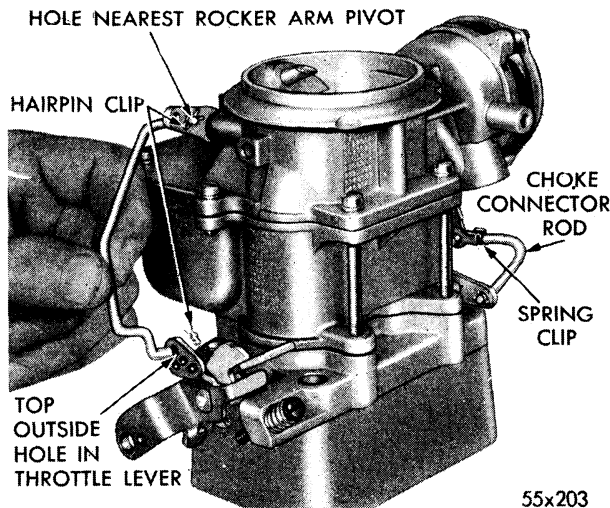
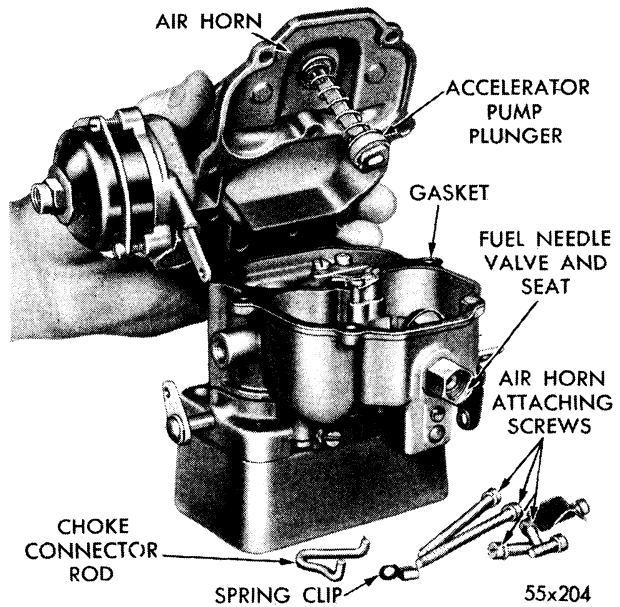

Fig. 4—Removal or Installing Accelerator Pump Rod
Fig. 5—Removing or Installing Air Horn
- (1) Remove the hairpin clips that retain the accelerator pump operating rod, as shown in Figure 4.
- (2) Remove the dashpot (if so equipped).
- (3) Remove the spring clip that holds the choke connector rod to the fast idle link.
- (4) Disengage the rod from the link and throttle shaft lever.
- (5) Remove the air horn and integral automatic choke as an assembly, as shown in Figure 5, and discard the gasket.